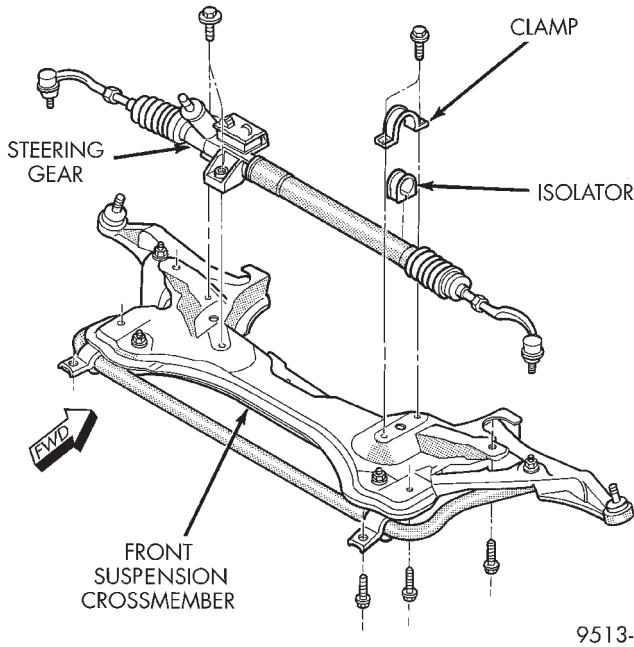

Fig. 2 Front Suspension Crossmember
- (1) Hoist and support vehicle on safety stands. Refer to Group 0, Lubrication and Maintenance, for proper procedure.
- (2) Remove engine support module.
- (3) Place a suitable lifting device under front suspension crossmember.
- (4) Remove bolts holding suspension strut to the lower control arm. Refer to Group 2, Suspension, for proper procedure.
- (5) Disengage lower ball joints from lower control arms. Refer to Group 2, Suspension, for proper procedure.
- (6) Remove bolts holding front of suspension crossmember to frame rails under upper control arms.
- (7) Loosen bolts holding rear of suspension crossmember to frame rail torque boxes.
- (8) Allow the front of the suspension crossmember to swing away from the frame rails.
- (9) Remove bolts holding steering gear to top of suspension crossmember (Fig. 2).